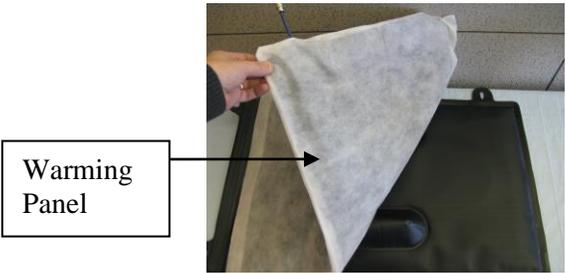

Figure 3
4. Place a thin patient barrier (thin sheet, pillow case or disposable cover) over the entire warming panel (see fig. 3) of the Warming Mattress. Lower panel back down on the base panel.
Each Return Electrode Mattress is sold with a green Return Electrode, Dual Generator “Y” Cable, A137 (Figure 3) that enables connection to one or two electrosurgical generators. When connected to an electrosurgical generator the Return Electrode Mattress functions both as a warming mattress and a neutral return electrode. This consolidation of underbody warming and electrosurgical grounding reduces cleaning and handling of multiple cumbersome pads. Also available is an A136 (Figure 5) return electrode cable for use with one electrosurgical generator.
(Figure 3.)